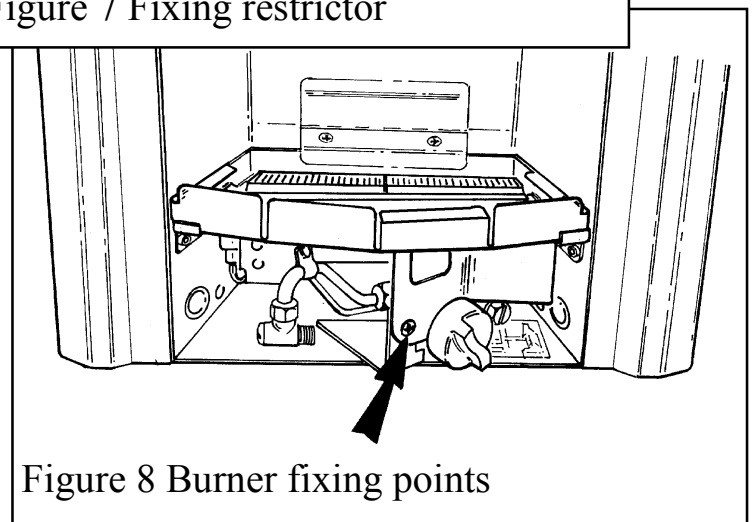

Figure 8 Burner fixing points
- The burner assembly is retained by one screw set in the front leg - See Figure 8. Remove the screw and carefully remove the burner assembly by lifting and sliding